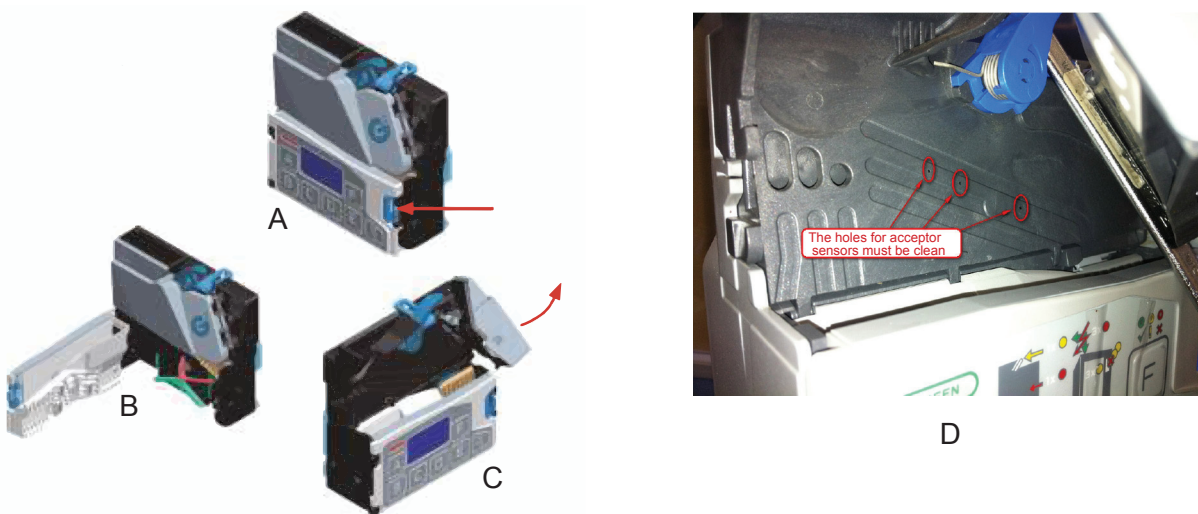

Figure 85
7. Press the refund handle (figure 80 position 3) and open the validator door (figure 85 c)
8. Clean the validator's coin intake tract completely with lightly moist fabric. The holes for acceptor sensors must be clean (see figure 85 d)